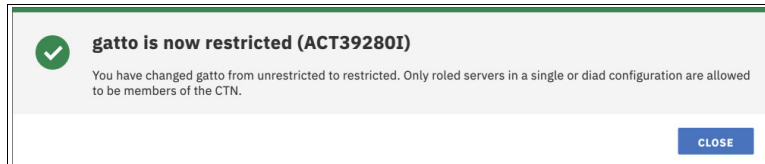

Figure 3-45 Restricting CTN membership task success.
4. Select **Allow only the servers that are specified below to be members of the CTN** and click **APPLY**. The task progress message is displayed. Wait until configuration is complete and the restricted CTN message is displayed (see Figure 3-45).